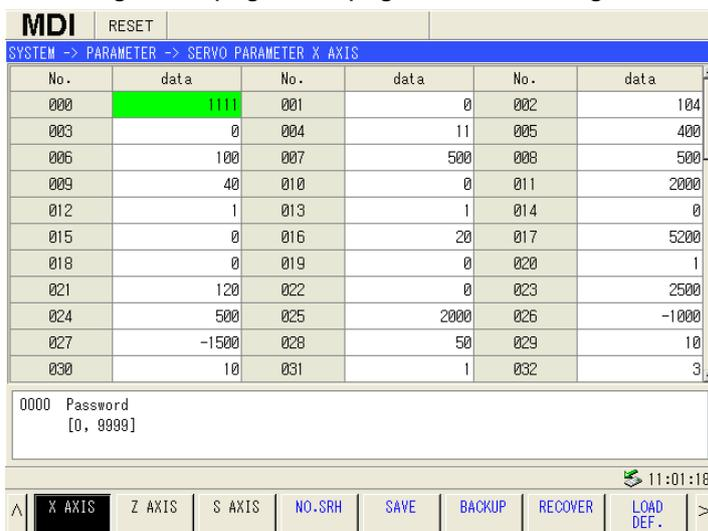

Fig. 9-4
2. Press **SYSTEM** to enter the system page, press **PARAM**, and then **SERVO PARAM** to enter the servo parameter management page. The page is shown in Fig. 9-4: